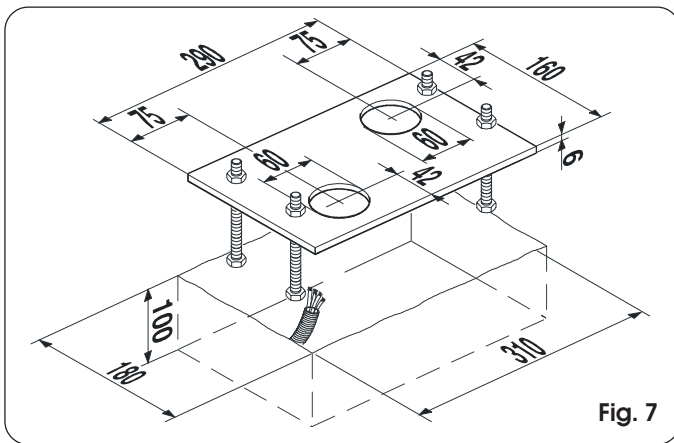

Fig. 7
- 3) Make a foundation plinth as shown in Fig. 7 and wall the foundation plate, providing one or more sheaths for routing the electric cables. Using a spirit level, check if the plate is perfectly level. Wait for the cement to set.